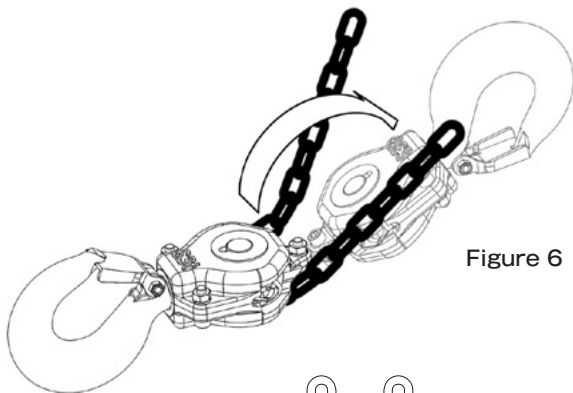
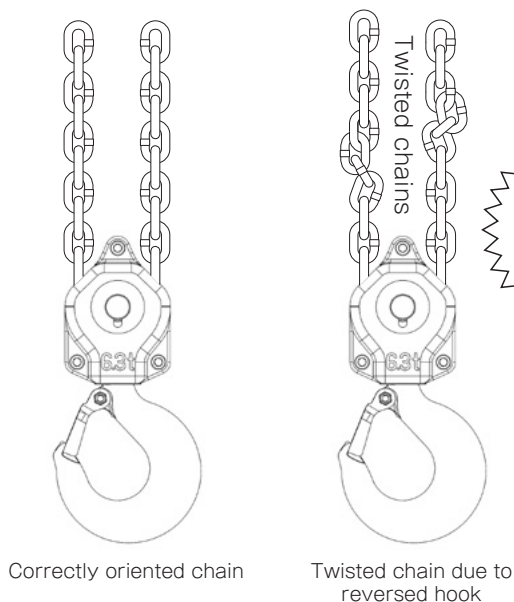

Figure 6
Figure 7
- (1) Make sure the chain stopper is attached to the second-to-last chain link on the no-load side of the load chain.
- (2) Before operating the equipment, make sure the load chain is not twisted or tangled. Hook for 6.3t (2 falls) and 9t (3 falls) are multiple falls hook. Make sure the hooks are not reversed. Be sure to correct any problems before using this equipment. (Figure 6, Figure 7)